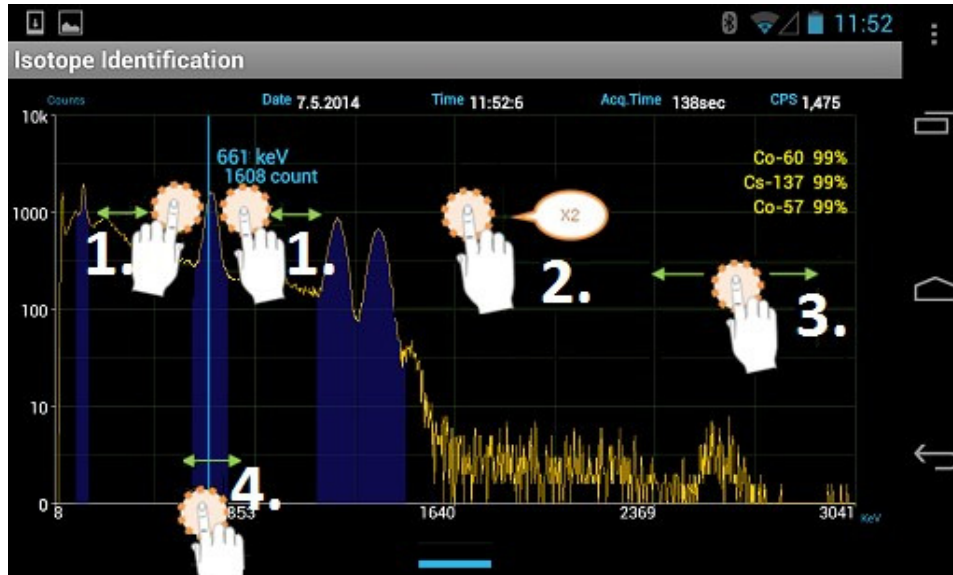

Figure 4.5. Spectrum manipulation features
You can manipulate the spectral display by touching areas of the screen (Figure 4.5).
3. Rotate the smartphone 90° to use the spectrum analysis tools (Figure 4.5).
Refer to Figure 4.5 in section 4.2.4 above for instructions for using the spectrum analysis tools.